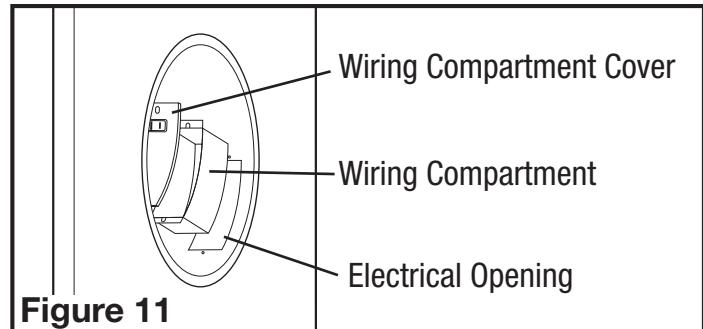

Figure 11
- Insert the wire compartment into the electrical opening of the interior housing and line up holes of wire compartment and wire compartment cover with holes on the interior housing. Secure in place using the two included 1/2" screws (Figure 11).